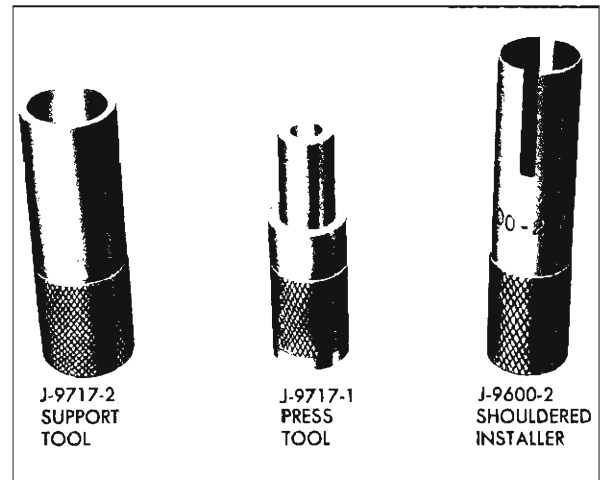

Fig. 29—Removing and Installing Diode Tools
1. Support end frame with support Tool J-9717-2 and press out diode with diode removal Tool J-9717-1 and an arbor press (fig. 29).